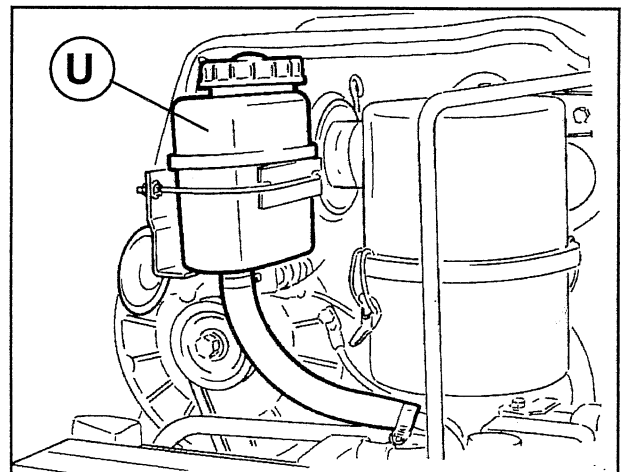

Fig. 53 Steering hydraulic system oil tank.
- 1) Insufficient fluid in the tank (U) (Fig. 53). Top up with the hydraulic fluid recommended in the Lubricants Table (p. 41).
- 2) Hydrostatic steering tank (U) filter clogged (Fig. 53). To eliminate the problem, simply wash out the filter.